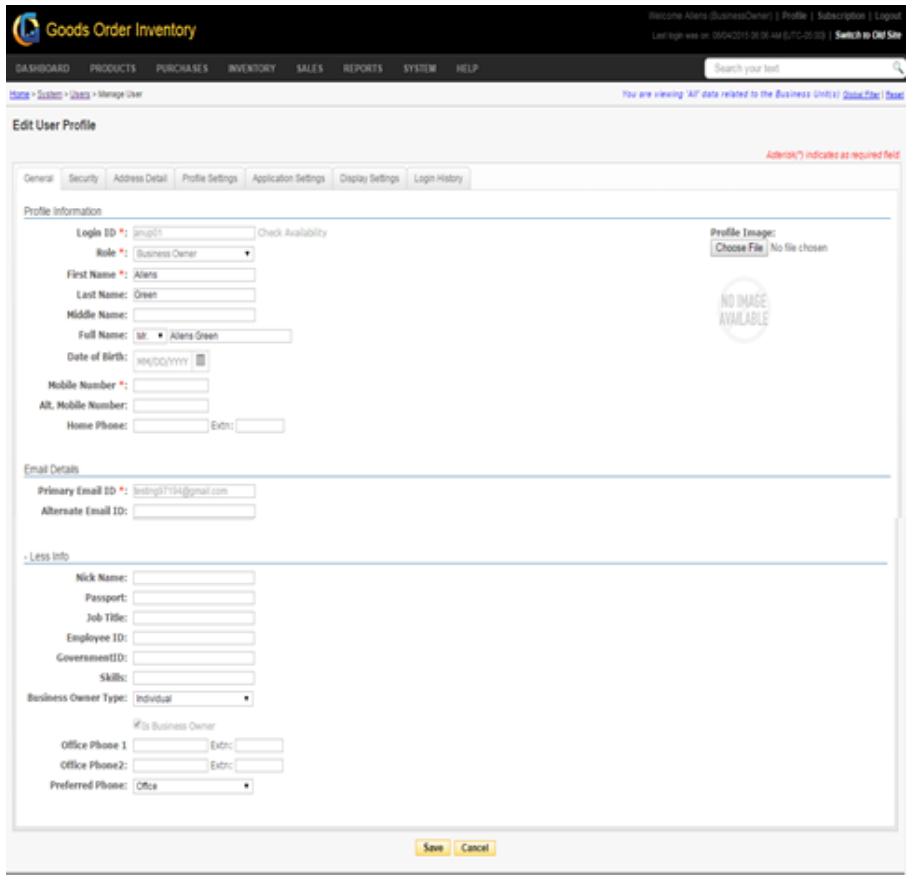

FIGURE 5.13.1
3. After clicking, you will be redirected to another page. A snapshot of the page is shown in figure: 5.13.1